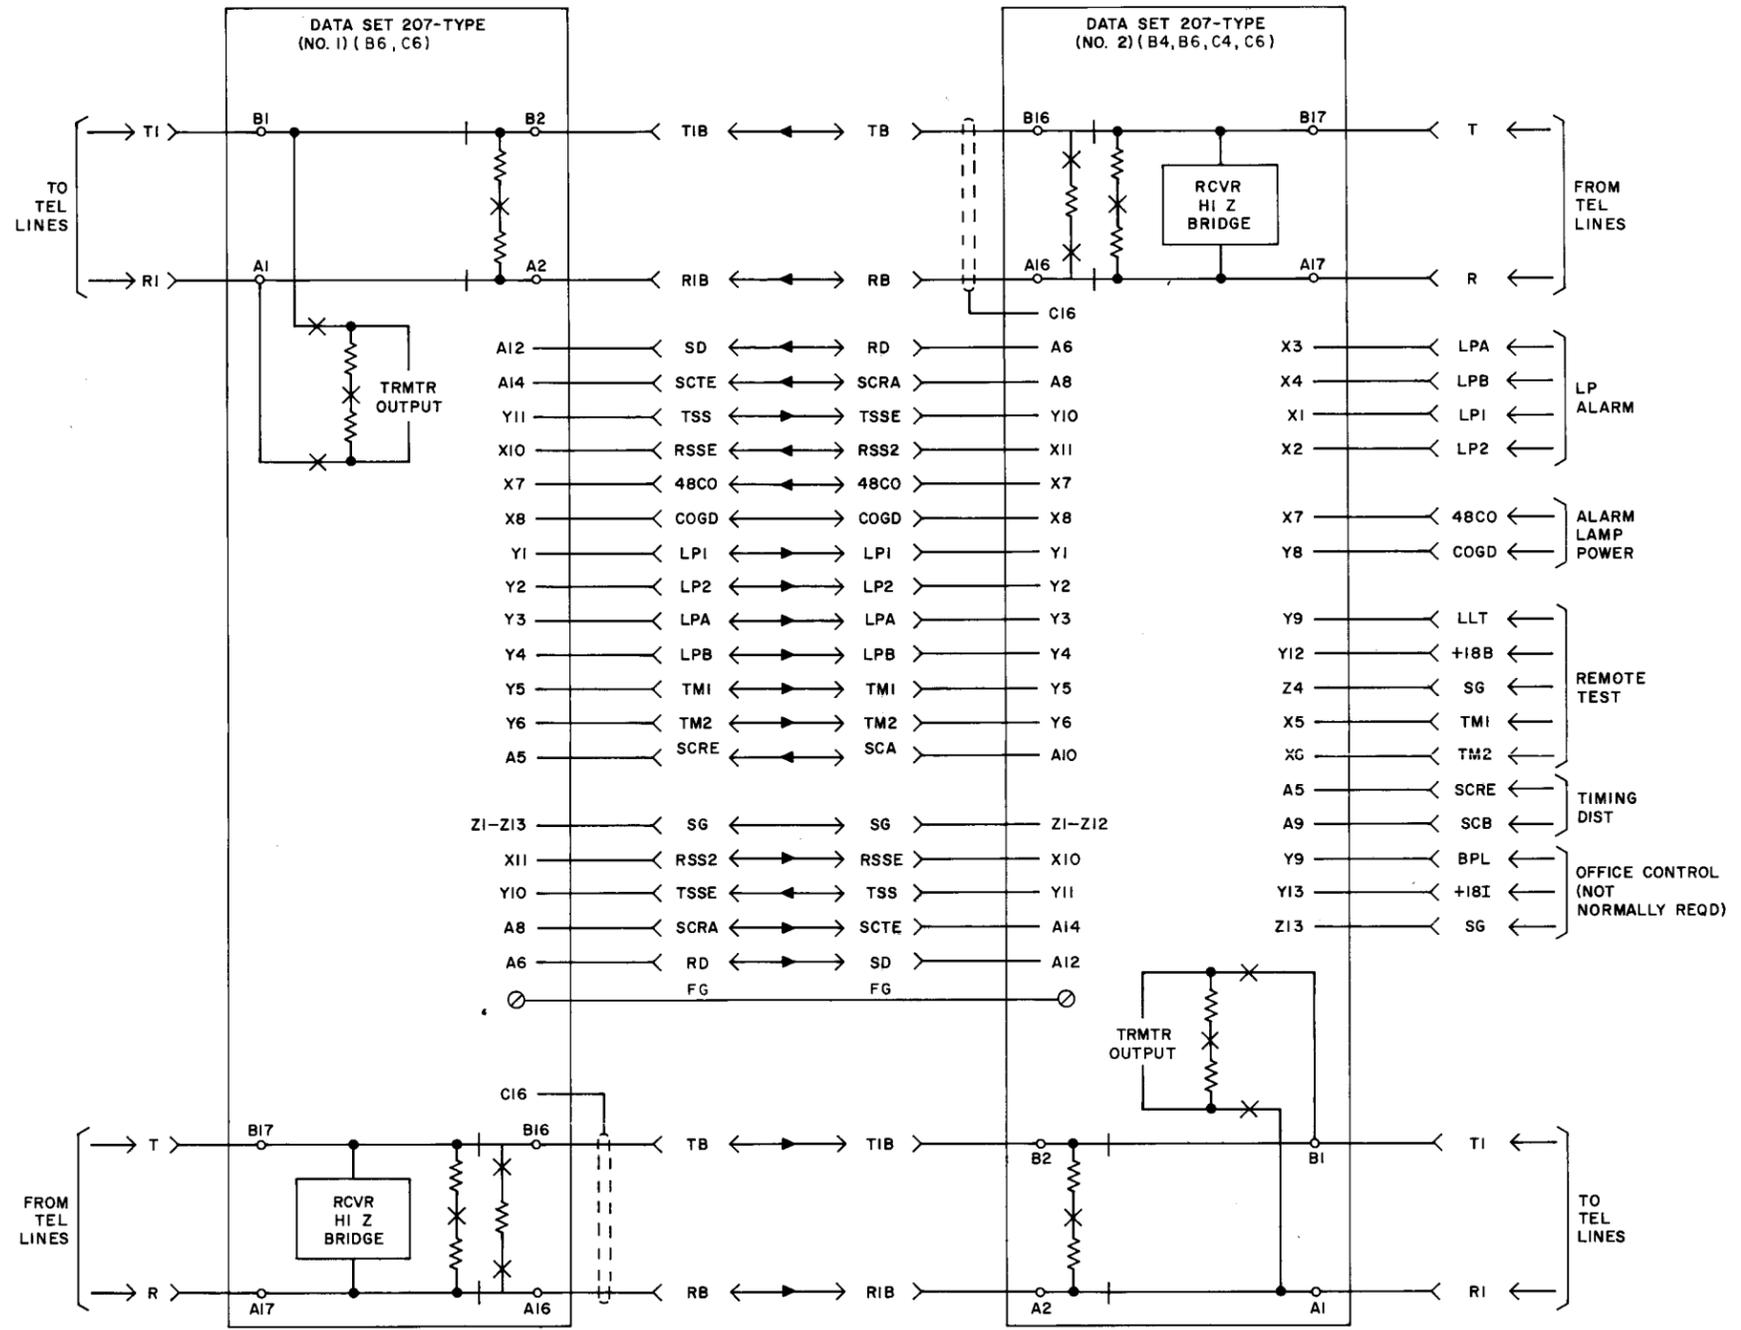
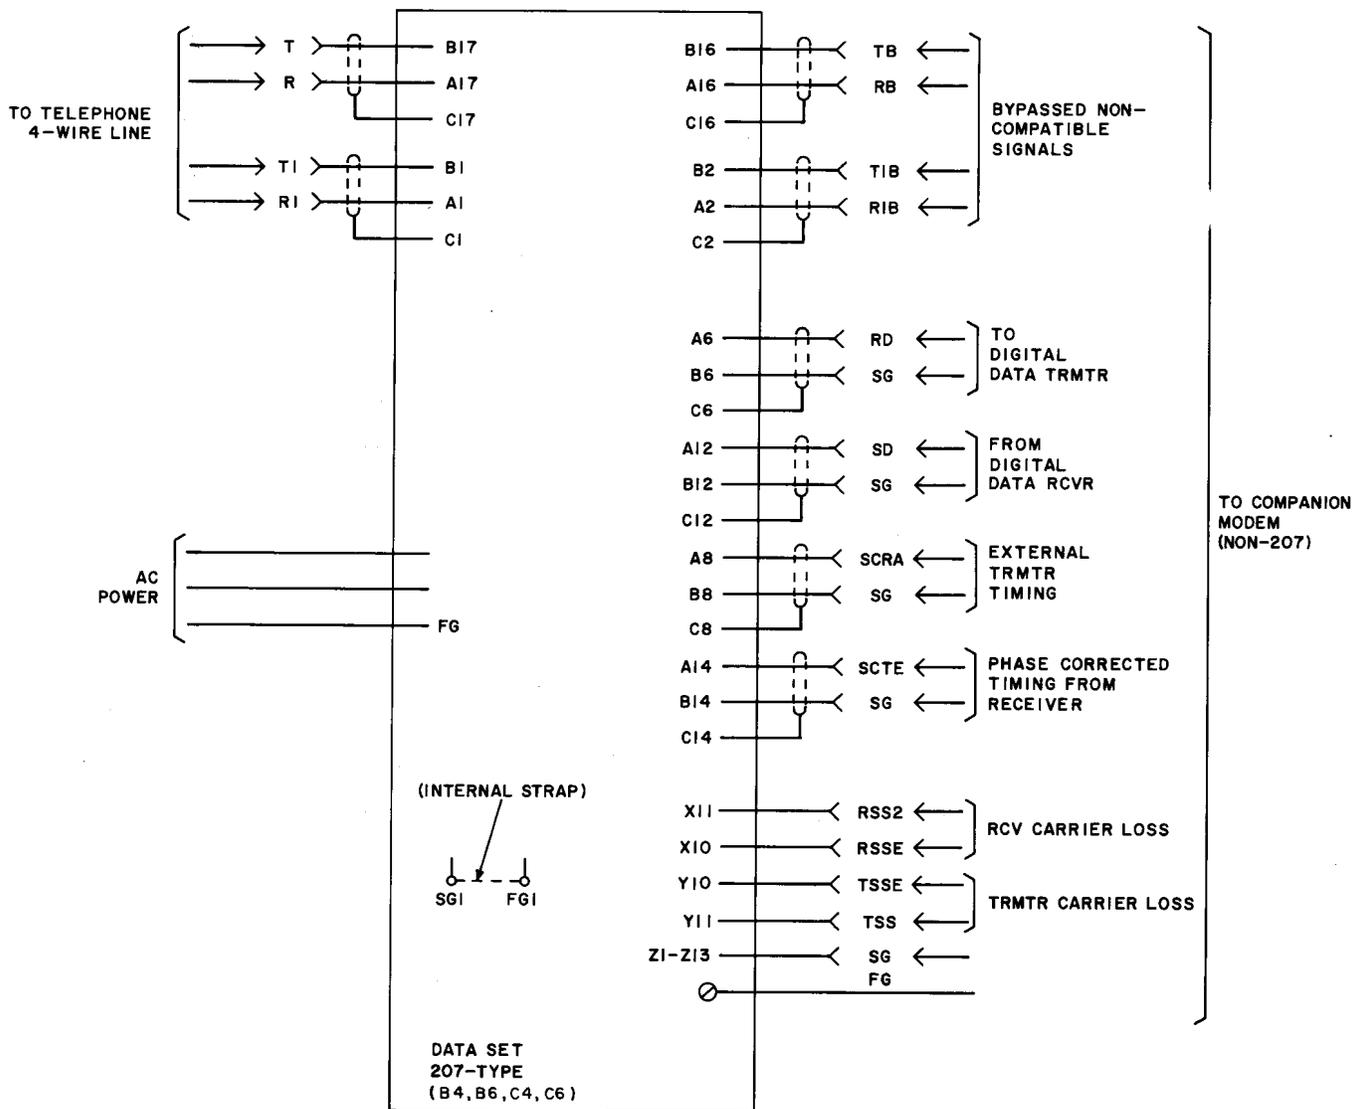

Fig. 11—Interface Connections for a Typical Regenerator Station Using Two Data Sets 207-Type
Fig. 12—Interface Connections for a Typical Regenerator Station Using One Data Set 207-Type and a Non-207 Companion Modem
**3.38** Interface connections for a typical regenerator station arranged for using two Data Sets 207-type (B4, B6, C4, C6) are illustrated in Fig. 11. Interface connections for a typical regenerator station arranged for using one Data Set 207-type (B4, B6, C4, C6) and a compatible non-207-type companion data set are illustrated in Fig. 12.